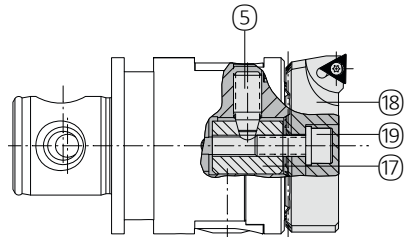

Fig. 7
**Insert holder for boring and outside turning without serrated slide (Fig. 7)**